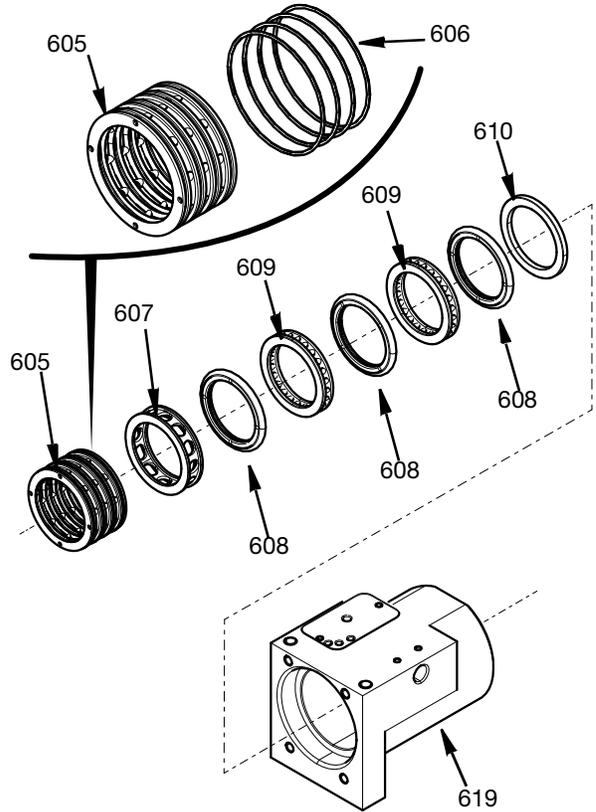

FIG. 26
3. Assemble the swivel housing (619) seals in the order shown in Fig. 26: 610, 608, 609, 608, 609, 608, 607.